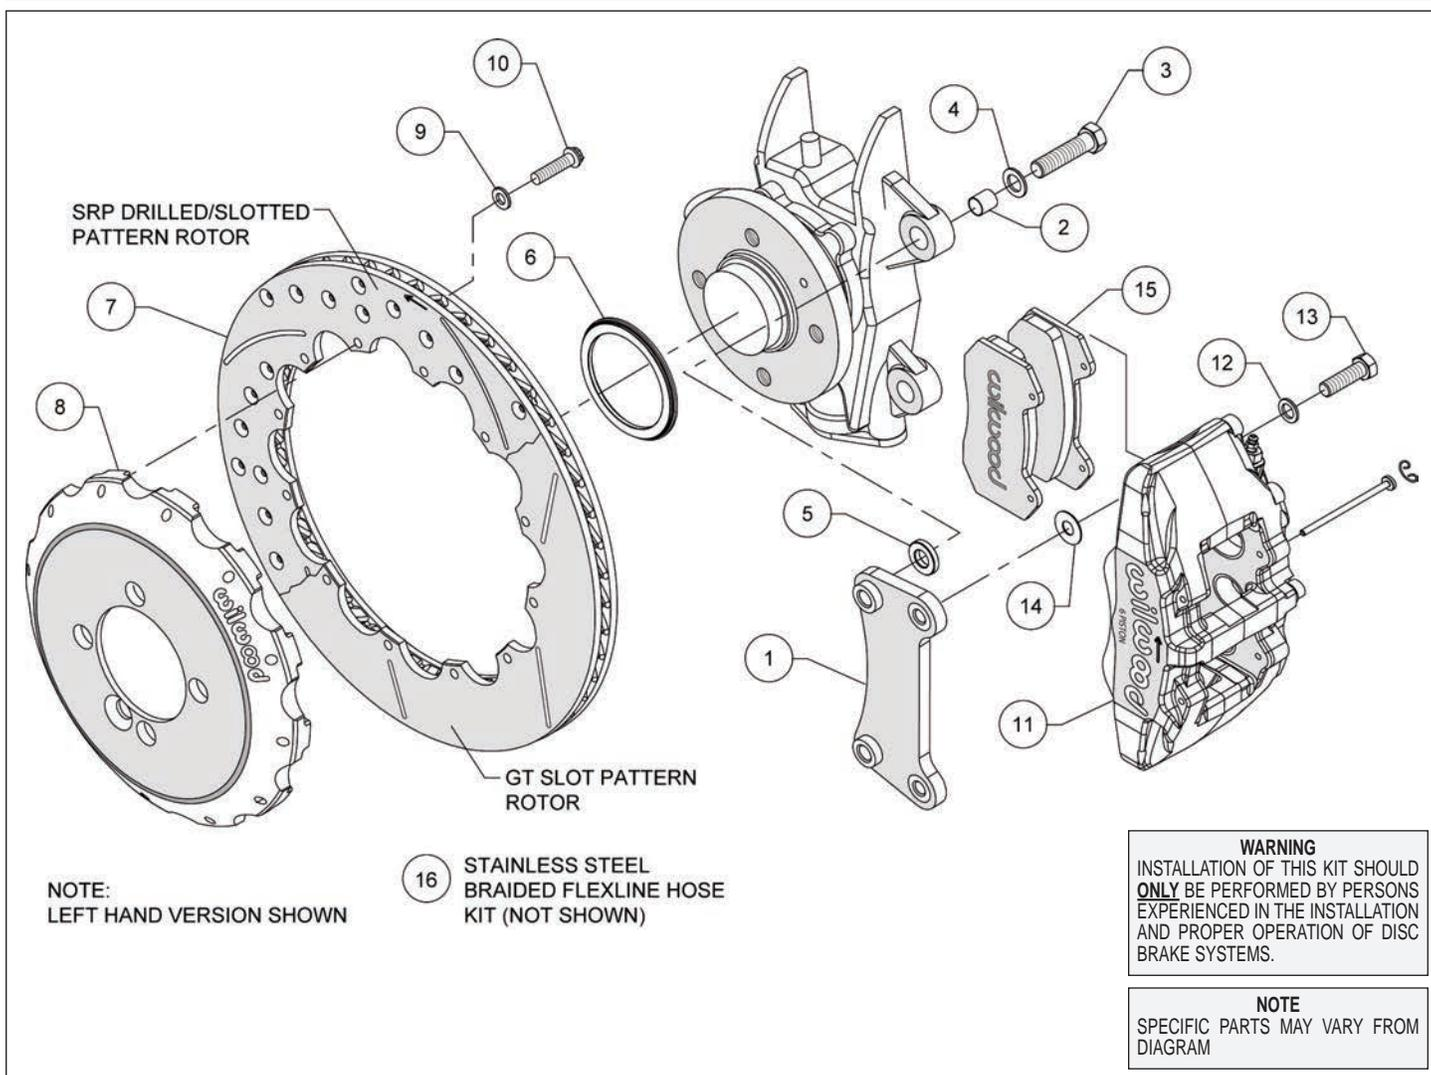
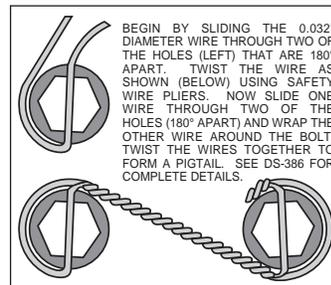
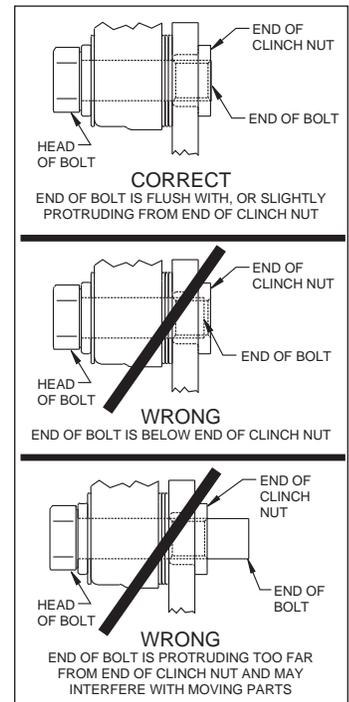

Figure 1. Typical Installation Configuration
Figure 3. Safety Wire Diagram
Figure 4. Clinch Nut Engagement Diagram
**Assembly Instructions** (numbers in parenthesis refer to the parts list and Figure 1 on the preceding pages): **CAUTION:** All mounting bolts must fully engage clinch nuts. Be sure to check that all bolts are either flush or protruding through flanged side of clinch nut after shimming, Figure 4.
- Orient the caliper mount bracket (1) as shown in Figure 1 and Photo 1, and install using bolts (3), washers (4), and spacers (5). Insert one sleeve (2) into each of the upright mounting lug holes, Figure 1. Place the spacer between the Original Equipment Manufacturer (OEM) mounting lug and the bracket, Figure 1. Ensure that the flanged heads of the clinch nuts in the bracket are facing outboard, Photo 1. Temporarily tighten the mounting bolts. **NOTE:** The bracket must fit squarely against the mount bosses on the upright. Inspect for interference from casting irregularities, machining ridges, burrs, etc. Remove bolts one at a time, apply red *Loctite*® 271 to the threads and torque to 60 ft-lb.
- Orient the rotor (7) and the hat (8) as shown in Figure 1 and Photo 2. Attach rotor to hat using bolts (10) and washers (9). Using an alternating sequence, apply red *Loctite*® 271 to the threads, and torque to 155 in-lbs. For an added measure of security, the bolts may be safety wired using standard 0.032 inch diameter stainless steel safety wire as shown in Figure 3. Please refer to Wilwood's data sheet DS-386 (available at [www.wilwood.com/Pdf/DataSheets/ds386.pdf](http://www.wilwood.com/Pdf/DataSheets/ds386.pdf)) for complete safety wire installation instructions.
- Slide the rotor registration adapter (6) onto the axle register on the axle hub with the smaller O.D. facing toward the rotor/hat (7/8), Photo 3. Align the locating hole in the hat to the hub and slide the hat/rotor assembly onto the hub. **NOTE:** The hat must fit flush against the hub flange or excessive rotor run out may result. Install the stock hat locator bolt and torque to OEM specifications.
- **NOTE:** Please reference the caution statement at the beginning of the assembly instructions. This kit contains distinct right and left hand calipers that must be mounted in a specific direction, as described below. Mount the caliper (11) onto the caliper mounting bracket (1) using bolts (13) and washers (12), as shown in Figure 1. Initially place one .035" thick shim (14) on each bolt between the caliper and the bracket, Photo 4. Ensure that the caliper is mounted so the largest pistons are at the rotor exit end of the caliper, in relation to the direction of rotor rotation. Temporarily tighten the mounting bolts and view the rotor (7) through the top opening of the caliper. The rotor should be centered in the caliper, Photo 5. If not, adjust by adding or subtracting shims between the bracket and the caliper. Always use the same amount of shims on each of the two mounting bolts. **NOTE:** The end of each bolt must be flush with or slightly protruding from the head of the clinch nut, as shown in Figure 4. If necessary place spare shims between washer (12) and caliper mounting ear to achieve the proper clinch nut engagement. Once the caliper alignment and clinch nut engagement are correct, remove the mounting bolts and caliper.
- Remove the two pad retaining pins from the caliper (11) by carefully popping out the pin retaining clips and sliding out the pins. Insert the brake pads (15) into the caliper from the bottom, Figure 1 and Photo 6, with the friction material facing the rotor. Secure the brake pads in place with the pad retaining pins and clips, Photo 7. Reinstall the caliper onto the caliper mounting bracket. Apply red *Loctite*® 271 to bolt threads (13), and torque to 40 ft-lb.